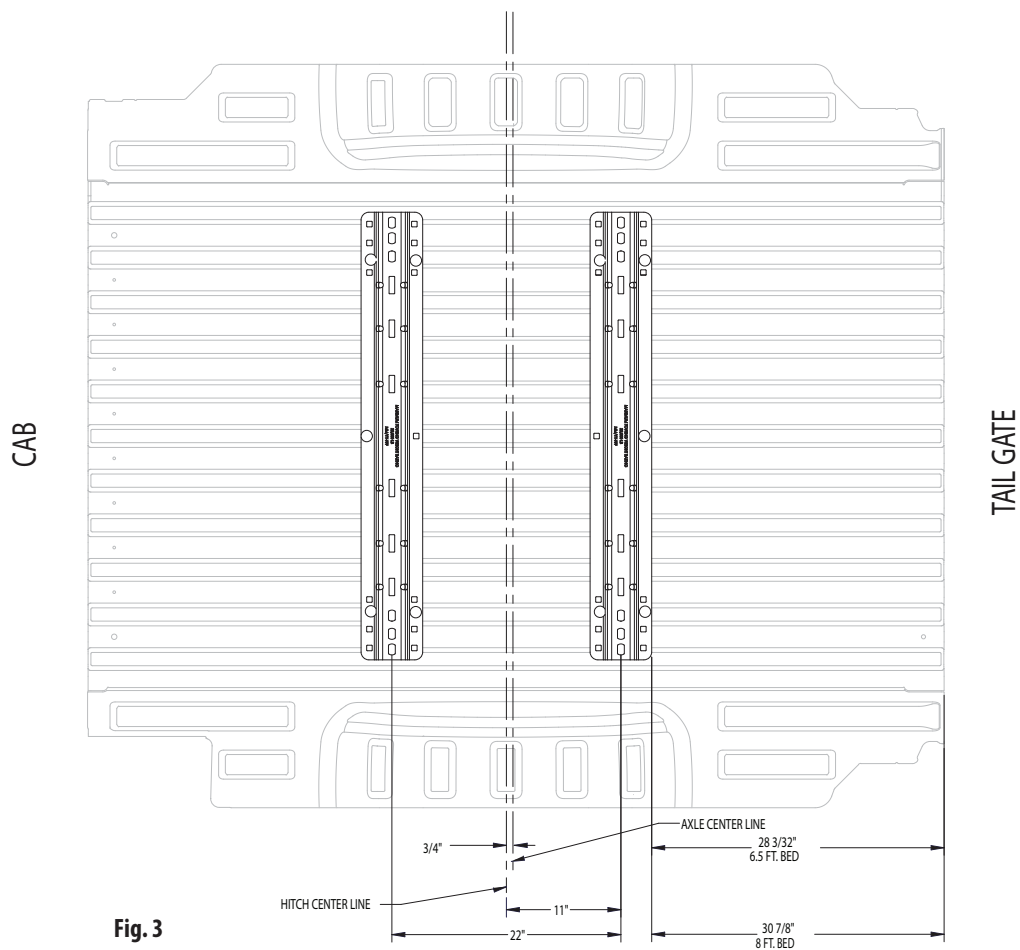

Fig. 3
- Place rear bed rail centered between the wheel wells in the bed such that the center of the 2 bed rails spaced at 22" is 3/4" in front of the rear axle (Fig.3).